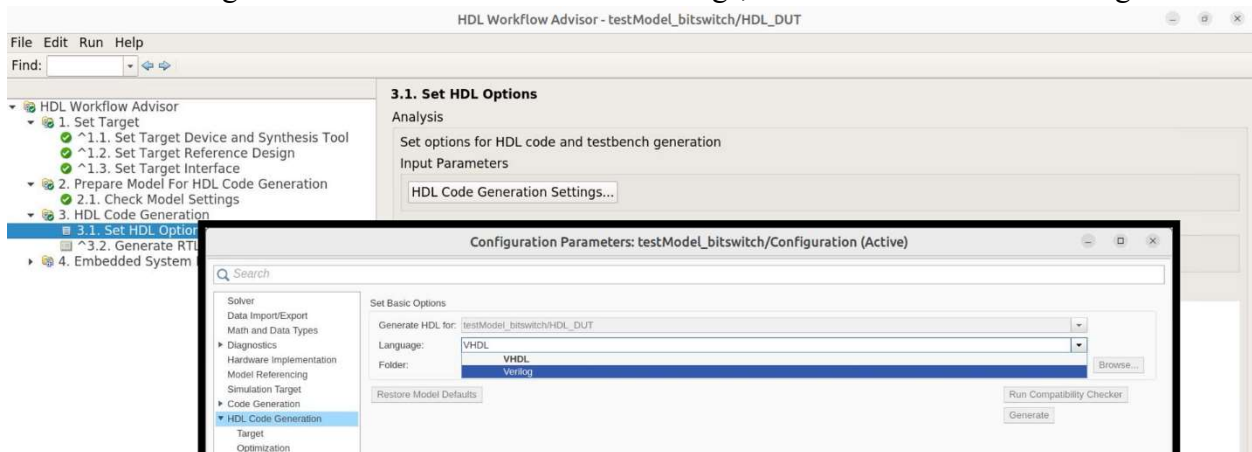

Figure 13. Set HDL Options
2.1 Select Verilog for the HDL Code Generation Settings, then run task as shown in Figure 13.